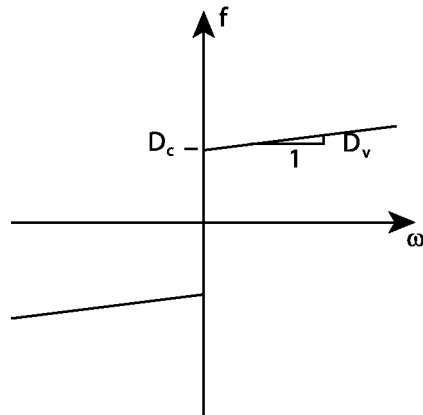

Figure 3: Friction versus angular velocity
where $\text{signum}(\omega)$ means “the sign of ω ”. In other words, coulomb friction is independent of velocity, but that the sign of D_c changes with ω . As the velocity increases, viscous drag increases the mechanical loss due to friction. Examples of viscous drag include lubrication in the bearings and aerodynamic drag caused by the load moving in air. The total friction as a function of rotational velocity is depicted in Figure 3.
Upon inspection of Figure 3 we note that Equation 5 is nonlinear and cannot be modeled with linear techniques. However, when steady-state conditions are satisfied for DC input, the inductance and inertial terms in Equations 1 and 5 vanish, resulting in the following linear equations:
10. Once this is complete, two plots are shown in the CVI program displaying the data. Determine whether the data shown is consistent with your expectations. One plot should resemble Figure 3 above and the other should show a linear relationship between V/ω and I/ω . Ask your TA if you are unsure of your results.
15. Using Excel or Matlab, create a figure like Figure 3 above that shows the relationship between motor torque and motor speed. Based on this plot and Equation 7 determine D_c and D_v and record these values in the space provided.